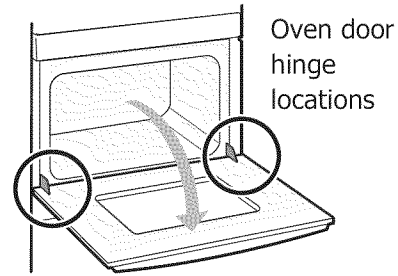

Figure 37: Door hinge location
1. Open oven door completely horizontal with floor (See Figure 37).
3. Fully open the oven door, horizontal with floor See Figure 37).